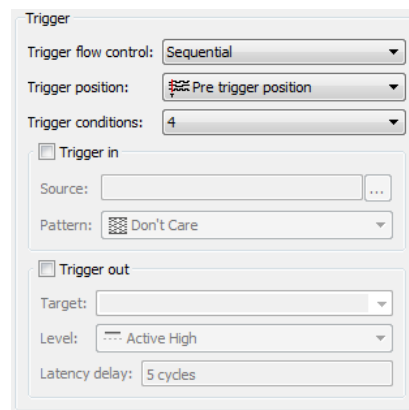

Figure 13. Set trigger levels to 4.
2. In the Signal Configuration pane, select 4 from Trigger Conditions dropdown menu as in Figure 13 (you may have to scroll down in the Signal Configuration pane to see this menu). This modifies the node list window by creating three new Trigger Conditions columns.